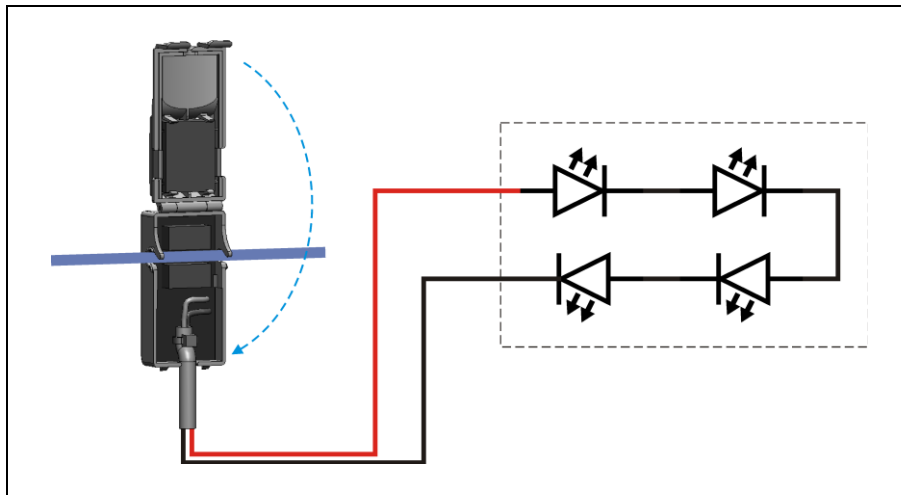
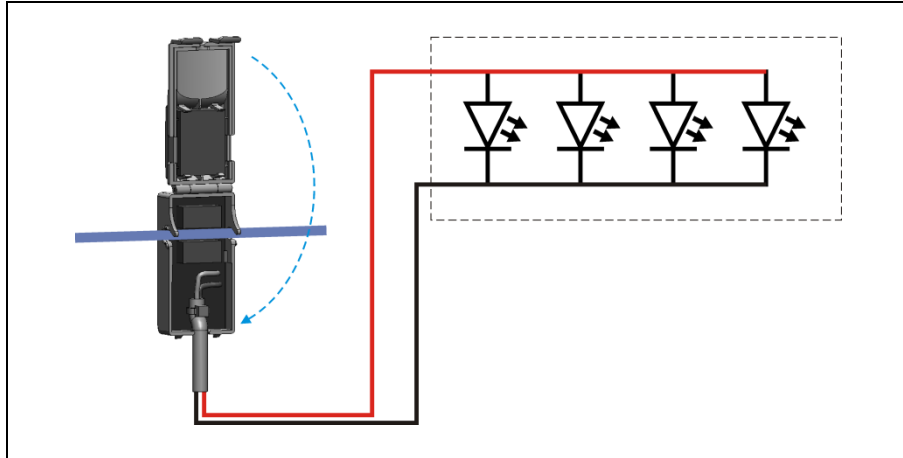
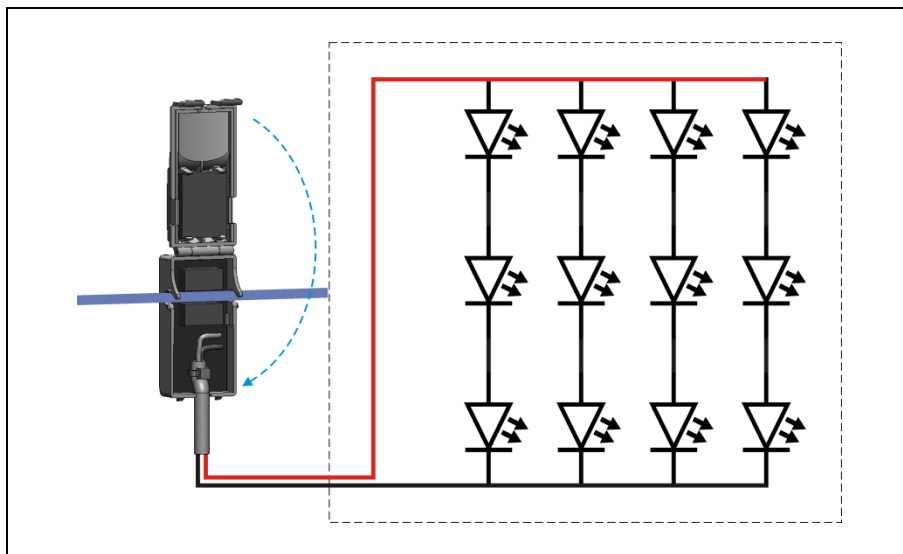

Figure 1: Series circuit
Figure 2: Parallel circuit
Figure 3: Series and parallel combination circuit
3. The LEDs comprised in the LED array shall be connected in series (figure 1), parallel (figure 2) or series and parallel combination (figure 3). The user is responsible for the proper design of the LED circuit and thermal dissipation properties.